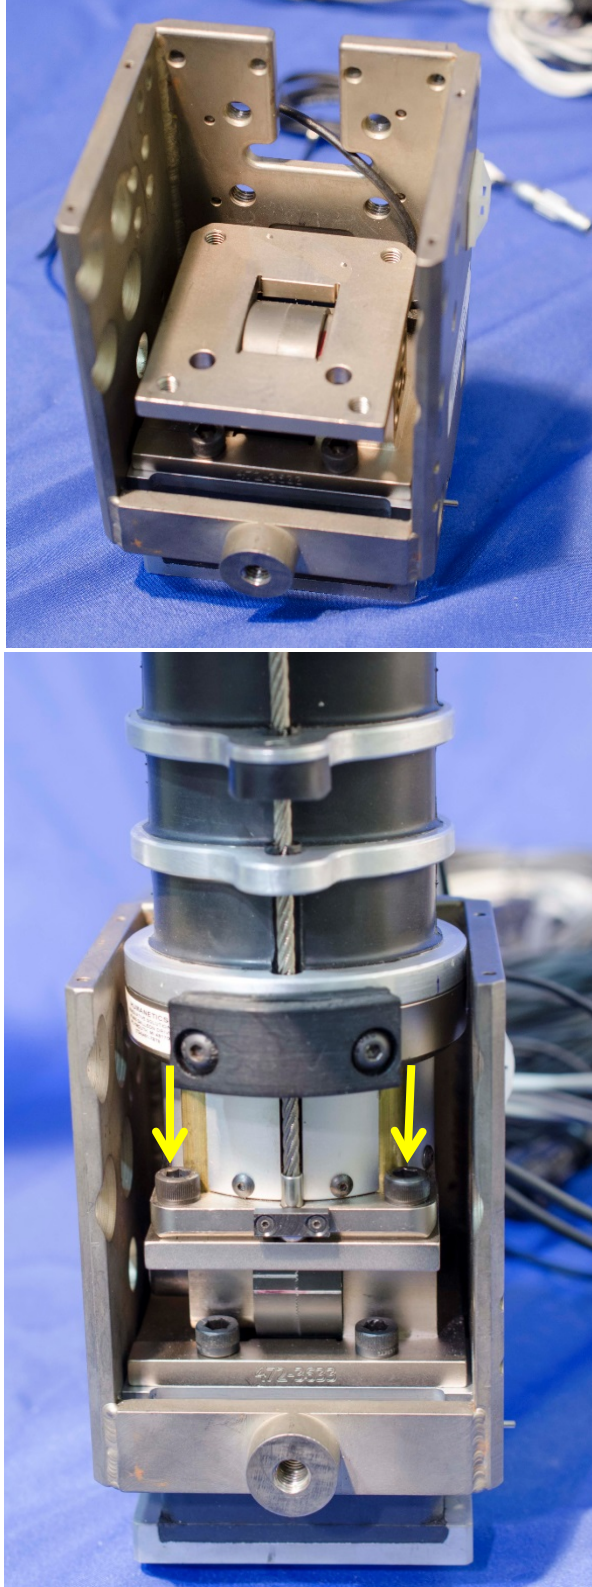

Figure 4-47. Secure lower neck load cell to neck pitch change mechanism
- 4.2.5.1 Secure the Lower Neck Load Cell to the top plate (472-3636) of the Neck Pitch Change Mechanism using four M6 x 1 x 14 SHCS as shown in Figure 4-47.